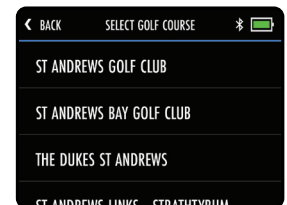

Fig 3 - Course Selection
3. A list of local courses will be displayed, with the nearest at the top (fig. 3)